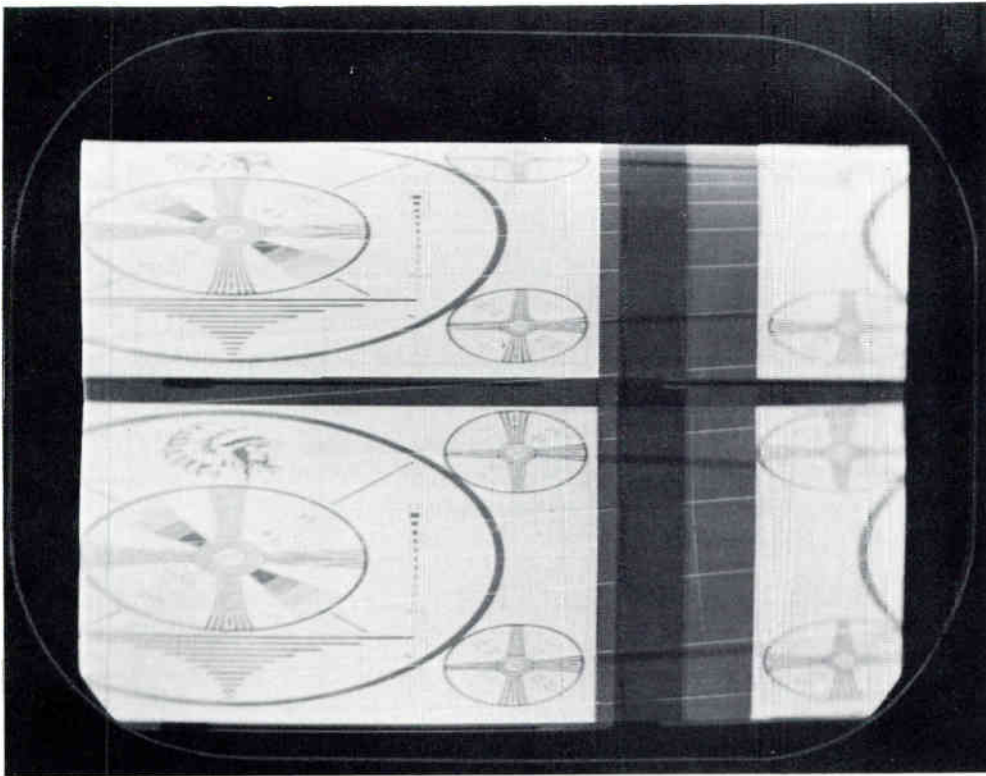

Figure 3 - Pulse Cross Display
2. Set switch S2 to the PULSE CROSS position. The picture should change to that shown in Figure 3.